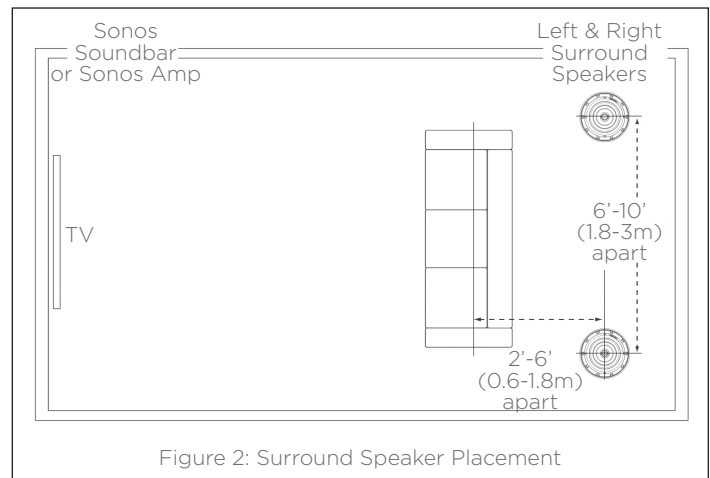

Figure 2: Surround Speaker Placement
Use the left and right speaker placement in Figures 2 and 3, on the left side of image, as a guide.
- Locate the left and right surround speakers 2 - 6 feet (0.6 - 1.8m) behind the listening position. The speakers should be 6 - 10 feet (1.8 - 3m) apart (see Figure 2).